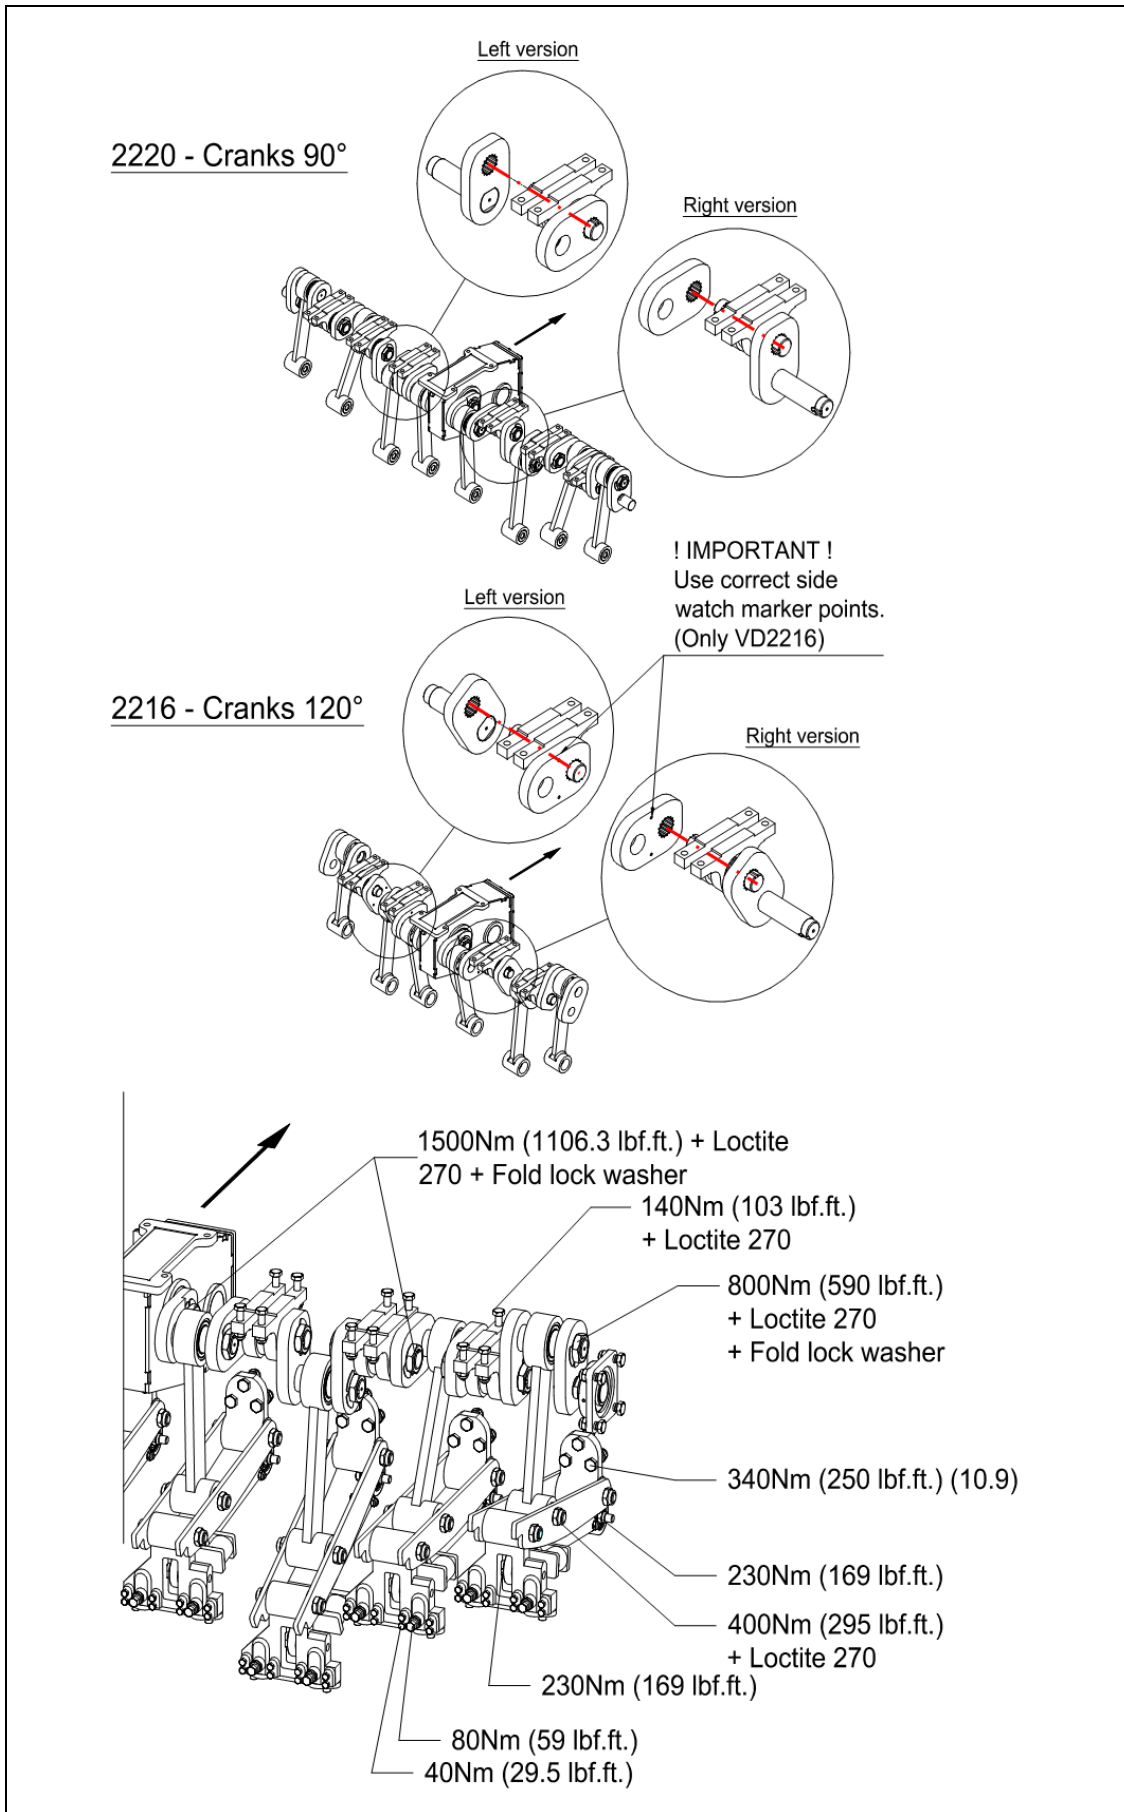

Fig 15.
2. Pull the big-end (13) a bit backwards until the element (12) comes loose.
3. Remove the connecting rod (14) by removing the pin (15).
4. Remove the nut (16), lock plate (17) and the crank element (18) from the gearbox. Mark the position of the crank element before removing it!
5. Using a screwdriver, remove the oil catcher (19).
8. Clean the crank element (20) and kit the splines with silicone sealant.
9. Assemble the crank element in the correct position (according to the marking)(See fig.15).
11. Assemble a new lock plate (17) and nut (16). For the nut, use Loctite.
12. Tighten the nut (16) with a torque as indicated in Figure 15.
Figure 15 indicates the tightening moments of the major bolts and nuts. Make sure that the tightening moments of bolts and nuts, which are not listed in Figure 15, are the same as the tightening moments of comparable bolts and nuts. If bolts and nuts come undone, Loctite may be used to tighten them.